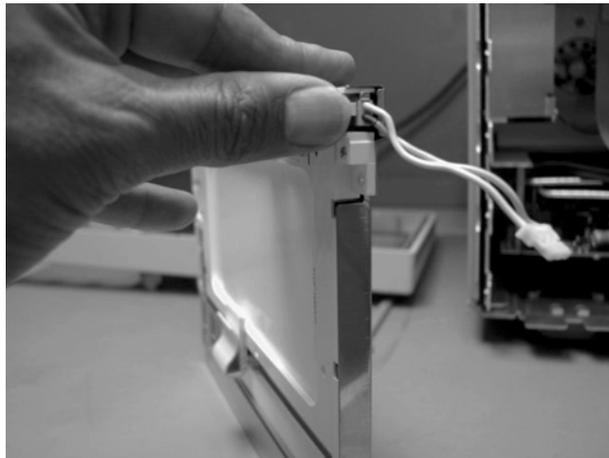

Figure 4-19. Release the Backlight Tab
- 3 At the top of the display, push the locking tab to release the top backlight, as shown in Figure 4-19.